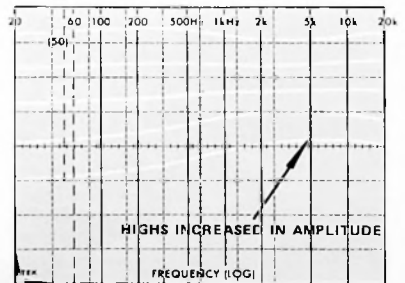

Fig. 68. Dolby 'B' Encoder Characteristic Response
3. Connect the audio spectrum analyzer to the modulation monitor output. Sweep the transmitter at 100% modulation. Repeat the sweep with 10 dB of attenuation inserted. Continue sweeping in 10 dB increments. A display similar to figure 68 will indicate proper operation of the Dolby B encoder.